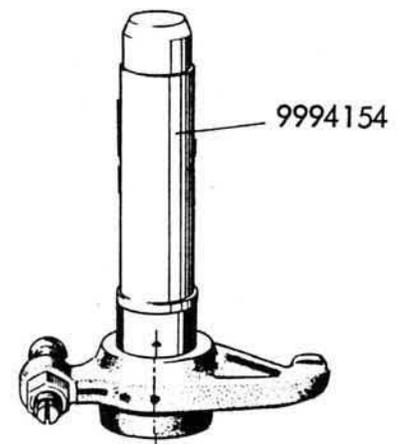

Fig. 18. Replacing a rocker arm bushing.
4. Oval-worn rocker arm bushings must be replaced. Use a drift to press them out and in. When the bushing is pressed in, the oil hole must be located as shown in Fig. 18. After pressing in, ream the bushing to a close running fit on the shaft. Remove all metallic particles.